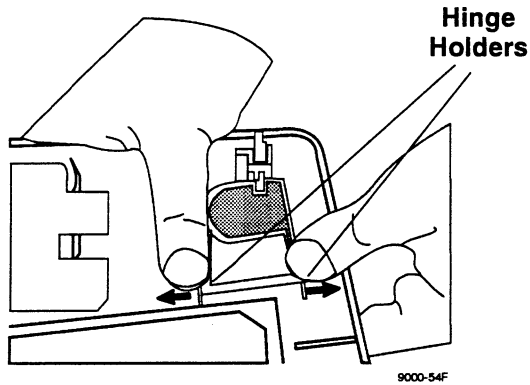

Figure 5-16. Replacing Power Switch
2. Remove the power switch button by spreading apart the hinge holders. Figure 5-16.
2. Remove the red or purple power switch button by spreading apart the hinge holders. Figure 5-16.